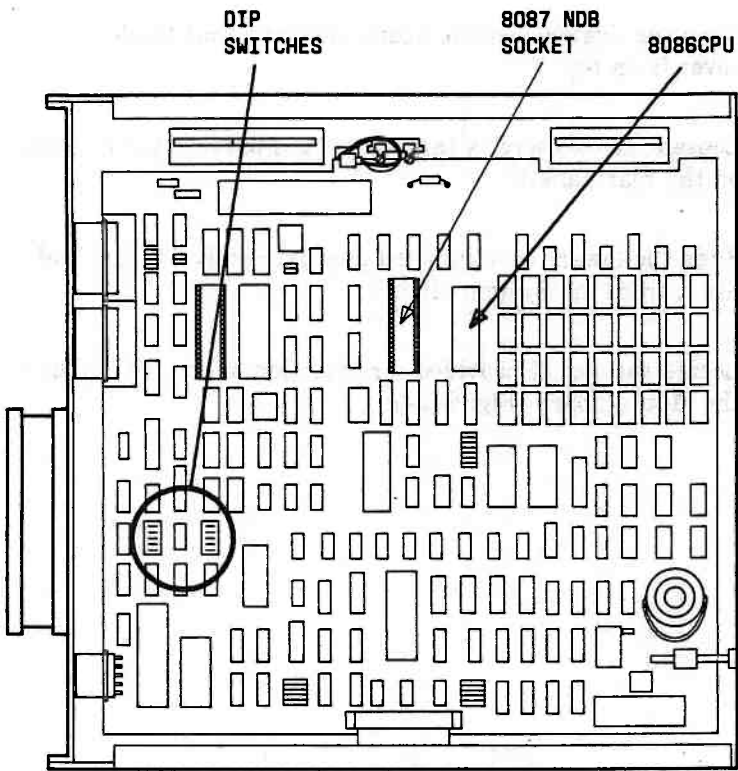

Figure 3-20. Locating the 8087 NDP Socket
7. Locate the socket provided for insertion of the 8087 NDP on the Motherboard (Figure 3-20).